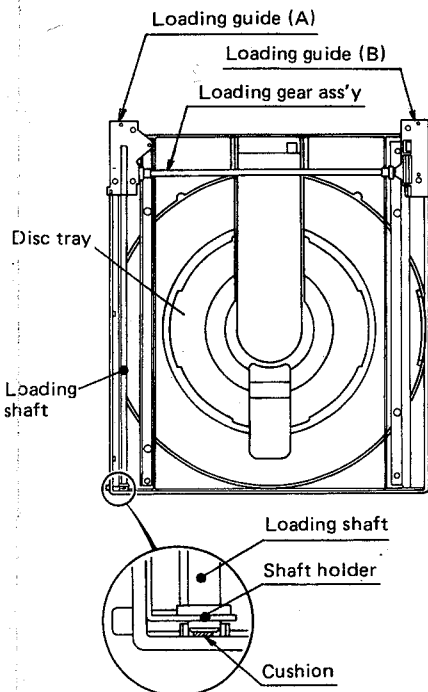

Fig. 7
Note: The left loading guide (B) is not fixed on the tray. Therefore, when taking the tray out, be careful that the loading guide (B) is not disengaged from the tray. Should the loading guide become disengaged, set it in position so that the shaft of the Loading gear assembly is parallel with the disc tray edge. (Figs. 7 and 8)